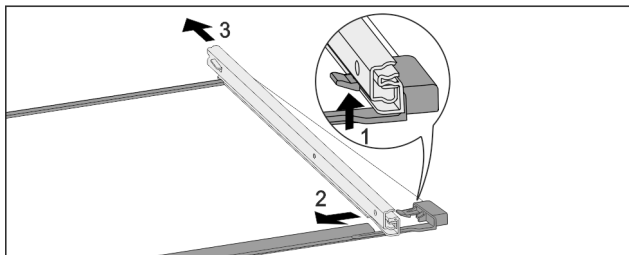

Fig. 71 Glass shelf with rails
- Push up front click-in hooks. Fig. 71 (1)
- Move the pull-out rails to the side Fig. 71 (2) and to the rear Fig. 71 (3).